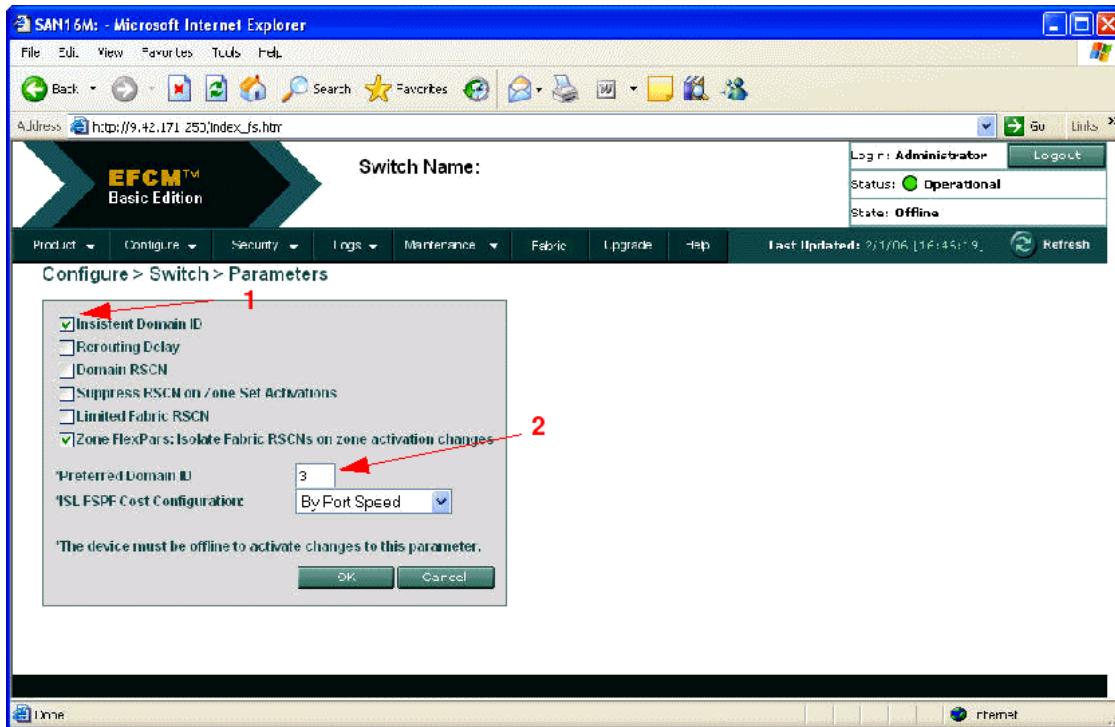

Figure 6-14 Configure → Switch → Parameters settings window
- From the Configure → Switch → Parameters settings window (Figure 6-14), select **Insistent Domain ID** (1). Next, define a unique ID ranging between 1 and 31 (2). In our example, we use Domain ID 3. Click **OK**.